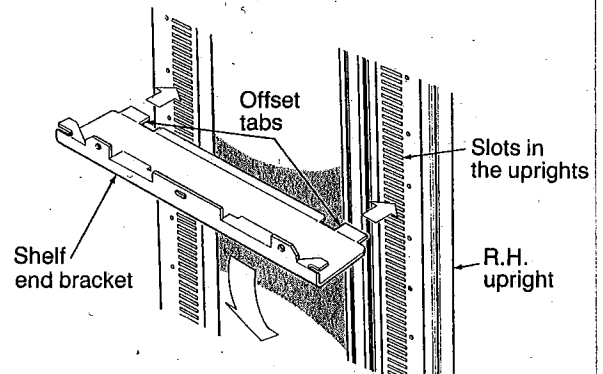

Figure 2. Shelf end bracket locating
2. Start at either side of the cabinet with either shelf end bracket (they are the same). Hold it horizontally and insert its two offset tabs into the slots in the uprights (see Figure 2). Then let it pivot downward and hang vertically. Install the other shelf end bracket the same way.